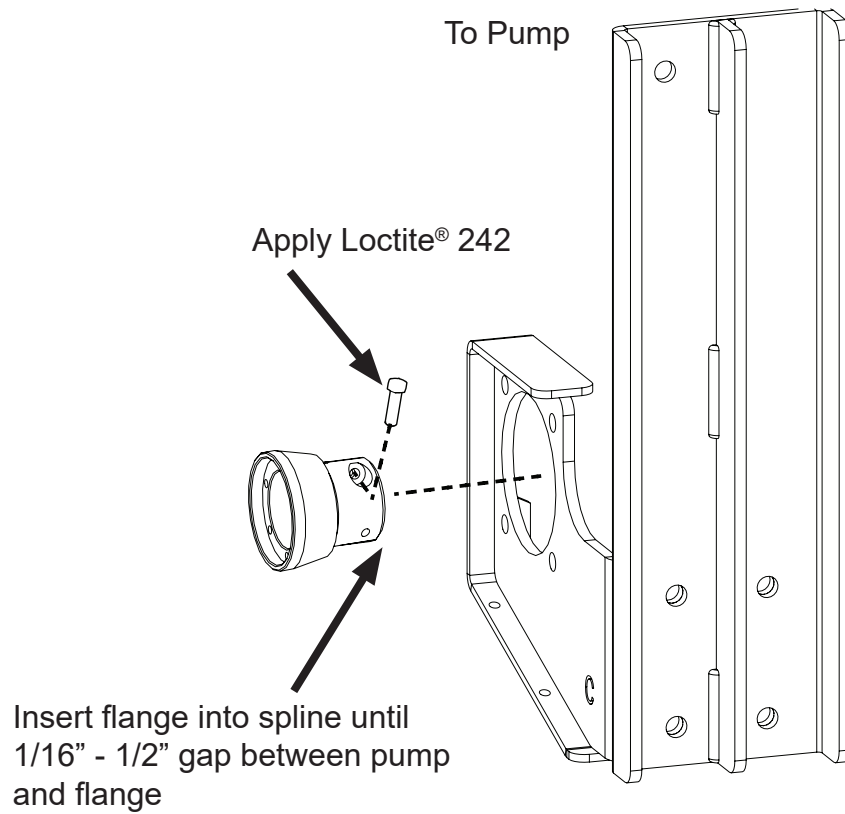

Figure 9
5. Apply Loctite® 242 to the new two (2) 6mm Allen head bolts.
6. Install the CV shaft adapter flange into the pump spline until there is a 1/16" – 1/2" gap between the pump and flange (Figure 9).